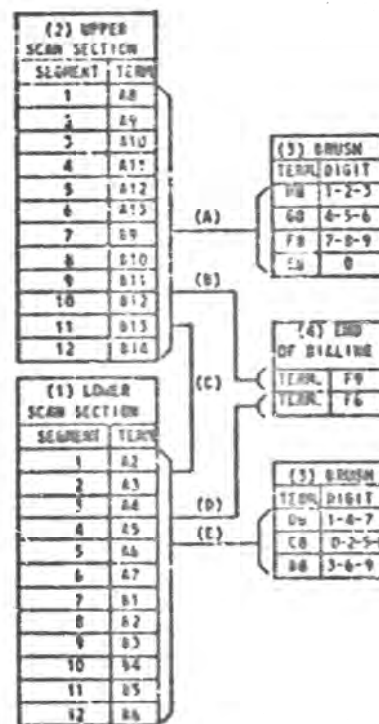

FIG. 2
A. USE FIG. 2 WHEN THE LTD INCOMING REMOTE TESTING CIRCUIT IS ASSOCIATED WITH ONE NO. 14 LTD.
2. THE TERMINALS SHOWN IN BLOCKS (1), (2), (3) AND (4) OF FIG. 2 ARE THOSE IN THE AREA OF LINE DESIGNATION IN FIG. 1.
3. THE ASSIGNED TELEPHONE NUMBER IS SEQUENTIALLY ASSOCIATED WITH THE LOWER AND UPPER SCAN SECTION SEGMENTS IN BLOCKS (1) AND (2). CROSS CONNECTION PAIRS (A) AND (E) INDICATE THAT THE BRUSH TERMINALS - BLOCK (3) - ARE ASSOCIATED WITH THE LOWER AND UPPER SCAN SEGMENTS - BLOCKS (1) AND (2).
1. THE TERMINALS IN BLOCKS (5) AND (6) ARE ASSOCIATED WITH THE REGULAR TEST DESK AND THE TERMINALS IN BLOCKS (7) AND (8) ARE ASSOCIATED WITH THE SECOND OR ALTERNATE TEST DESK.
2. THE CROSS CONNECTIONS FOR FIG. 3 SHALL BE INSTALLED IN THE SAME MANNER AS THOSE IN FIG. 2.